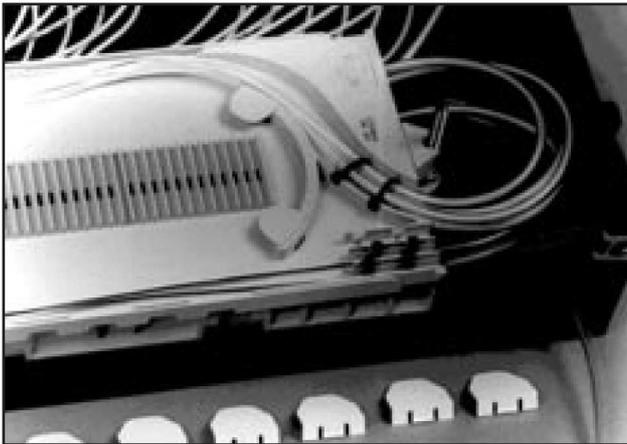

FIGURE 11 - SECURE TUBES TO SPLICE TRAY
8.07 Secure the Pigtail Tubes and Transport Tubes to the Splice Tray with the tie wraps. (Figure 11)